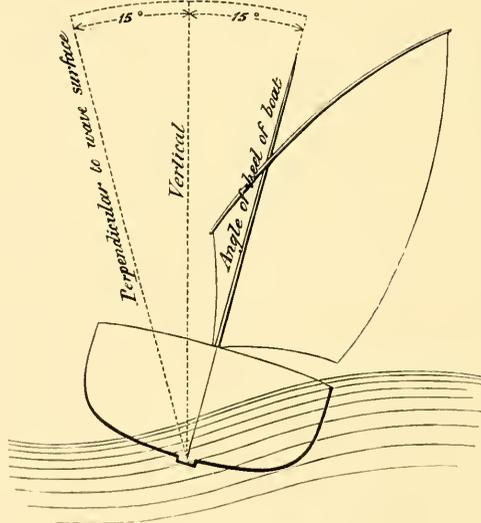

FIG. 57.
It can be supposed that a boat is sailing with a beam wind, and with a beam sea, and that her inclination, due to the pressure of wind on her sail is  $15^\circ$ . If she got into the position shown in Fig. 57, she would practically be inclined to  $30^\circ$  and she would probably upset. Assuming that the boat had no sail set, she would not get into such a position, as she would accommodate herself to the wave surface and her mast would correspond to the perpendicular drawn to the wave surface (*see* Fig. 57). Even with sail set the boat would more or less so accommodate herself to the wave surface, minus her steady angle of heel; but the increased pressure on the canvas, due to the righting moment of the boat, which would have to be overcome, would prevent her recovering herself entirely. That is, if the boat be heeled to  $15^\circ$  relative to the horizon, or to the normal surface of the water represented by the vertical line, and a wave came to leeward as shown, she would be in the position of a heel of  $30^\circ$  relative to the perpendicular to the wave surface; but, inasmuch as the wind pressure is only capable of heeling her to  $15^\circ$  the boat would ultimately recover herself to that extent, and her mast would be represented by the vertical. However, long before a boat could so recover herself, she might be swamped or blown over.
another  $15^\circ$ , she will frequently be in the position of being heeled to  $30^\circ$ ; and if the extreme part of the roll should occur jointly with such a position as shown in Fig. 57, the boat would inevitably upset.
Next it can be supposed that the boat is being sailed at a permanent angle of heel of  $15^\circ$ , that she has an extreme roll of  $15^\circ$ , and that there came a sudden wind squall. Then if the extreme leeward roll, and the squall took place together when in the position shown by Fig. 57, she would blow over and nothing could save her. But she need not be in such a position as that depicted and yet be blown over; if the boat has a heel of  $15^\circ$ , and an extreme leeward roll of  $15^\circ$ , then if the extreme roll and a squall occurred together the boat would be upset, whatever her actual position among the waves, whether she was on the trough, on the side, or on the crest of a wave. Further it must be always understood that a force of wind which will, if applied steadily, heel a boat to  $15^\circ$ , will if applied suddenly heel her to double that inclination; thus it is not so much the force of the squall as the suddenness of its application wherein lies the danger.
**SAILING AMONGST WAVES.**—When a boat is among waves (especially with a beam wind), ballast should not be trimmed to windward, nor should the passengers sit on the weather gunwales, as a boat after being in a position similar to that shown by Fig. 57 will take a very heavy weather roll, possibly fly up in the wind, be taken aback, and blown over.